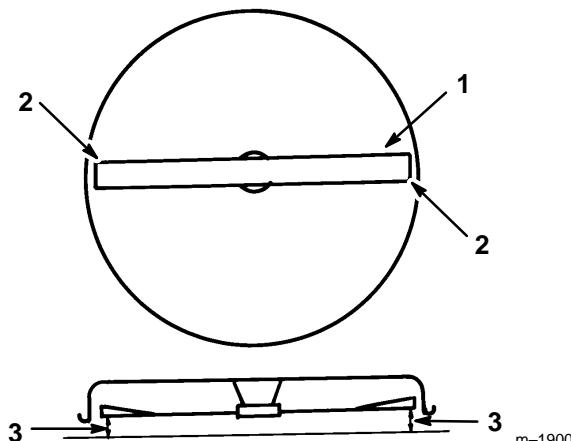

Figure 46
4. Carefully rotate blade(s) side to side (Fig. 46). Measure between the outside cutting edges and the flat surface (Fig. 46). If both measurements are not within  $3/16"$  (5 mm), an adjustment is required; refer to steps 5 and 6.